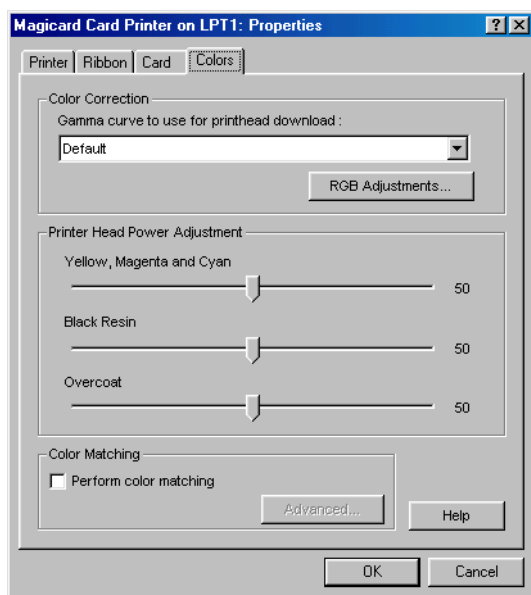

Figure 9: Printer Configuration Options – Color Tab
- Click the Colors Tab and a window with color adjustment options appears (see Figure 9 on page 9).